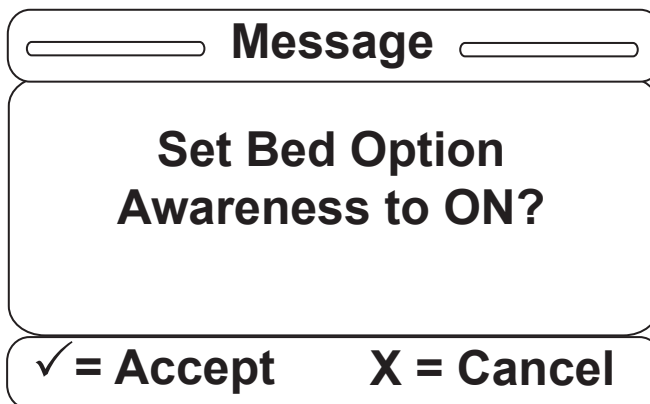

Figure S-16
16. Once you have selected one of the items, a confirmation screen such as that in Figure S-16 will be displayed. The confirmation screen text will vary based on the item you have selected. The confirmation screen in Figure S-16 indicates that the user chose the Awareness option to be ON. Hit “Enter” on the footboard panel to confirm your Awareness option; hit “Exit” to cancel the operation.